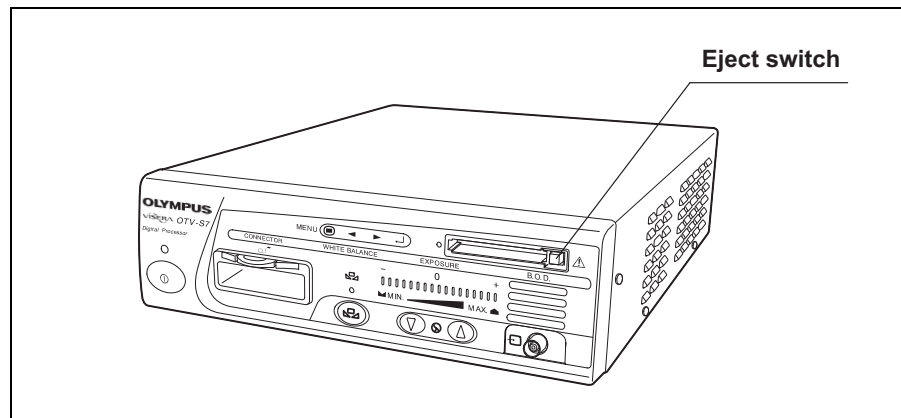

Figure 3.17
- Usually push the eject switch into the OTV-S7V until it stops (see Figure 3.17). Otherwise, the eject switch may be damaged.